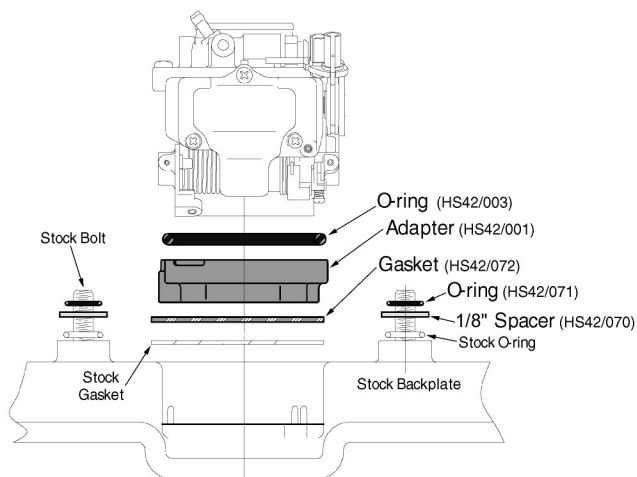

Figure 5
- B. Insert the enclosed small O-rings into the 1/8" spacers. The spacers mount between the backplate and heads. Secure the backplate to the engine using the spacers with the O-ring facing the engine (Figure 5).